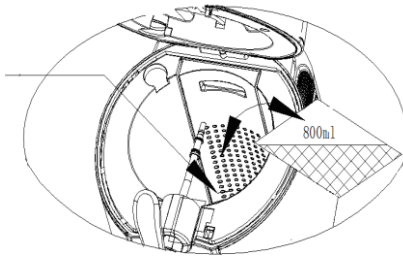

Figure 8
5. Put 800ml water into the cooling cavity or pour the water to the max mark (Show as figure 8) (It can work without water, but it can't display the best performance).